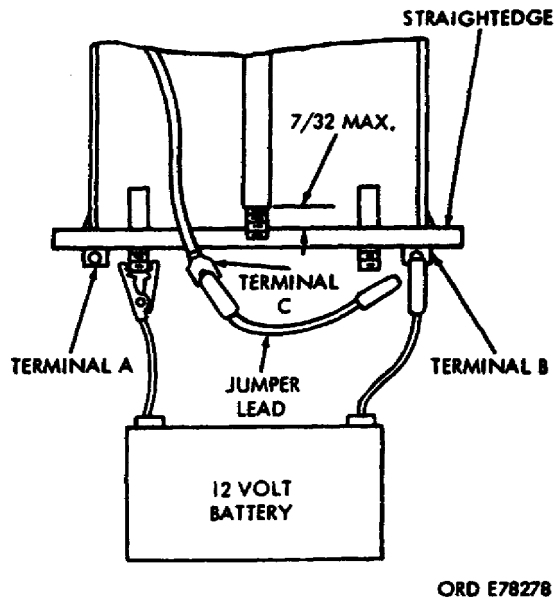

Figure 27. Plunger adjustment.
c. Solenoid relay assembly. What is important here is the plunger shaft adjustment (fig 27). The solenoid is energized and the distance from the shaft shoulder to the straightedge is measured. The self-locking nut must be adjusted until proper alinement is achieved. Once this is done, the solenoid can be completely assembled.